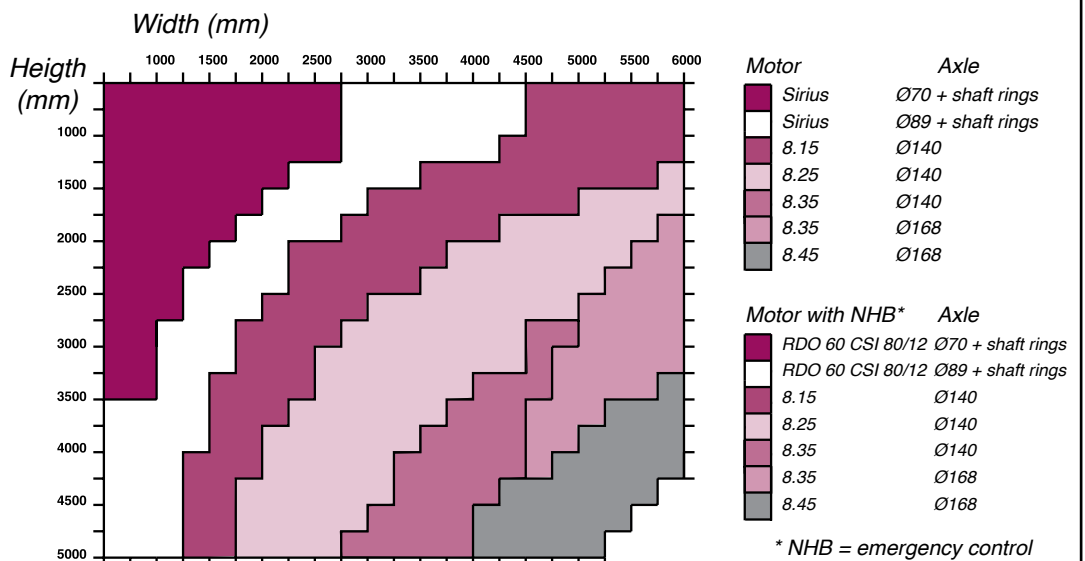

Fig. 10 : Table choice of motors and corresponding axles
- Determine the motor type (figure 10)
- Determine the appropriate axle (to read off in figure 10)